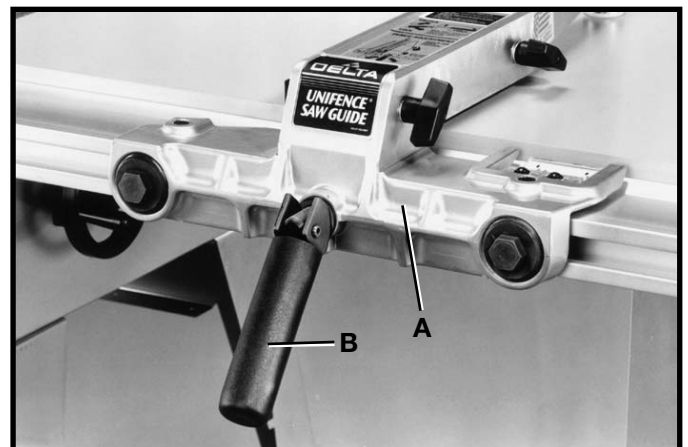

Fig. 73
4. Lock fence body (A) to the guide rail by pushing down on handle (B) Fig. 73.